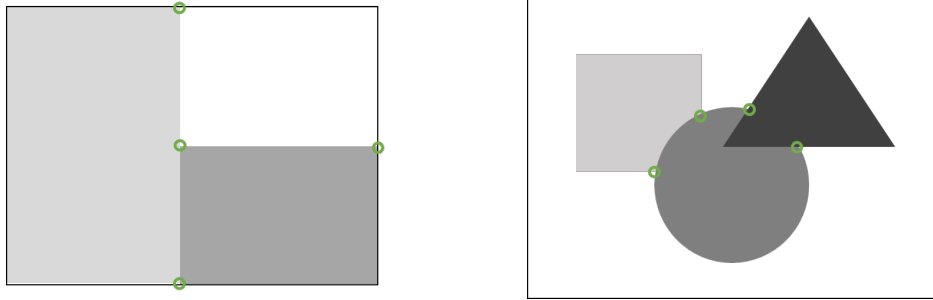

Figure 4: Examples of control points, which are marked with small circles.
Step 4. Search & label control points. Here, control point is defined as the intersection or meeting point between edges in the images (Figure 4). These control points will not change their positions (x, y coordinates) in the following steps. This step uses a subroutine (`getCtrlPnts.m`) developed by me to search and label control points.